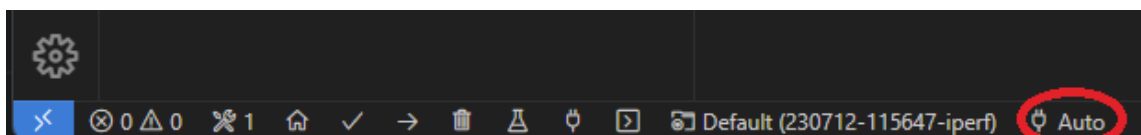

Figure 20. Serial Monitor selection
1. Click on “Auto” in the status bar (Figure 20)